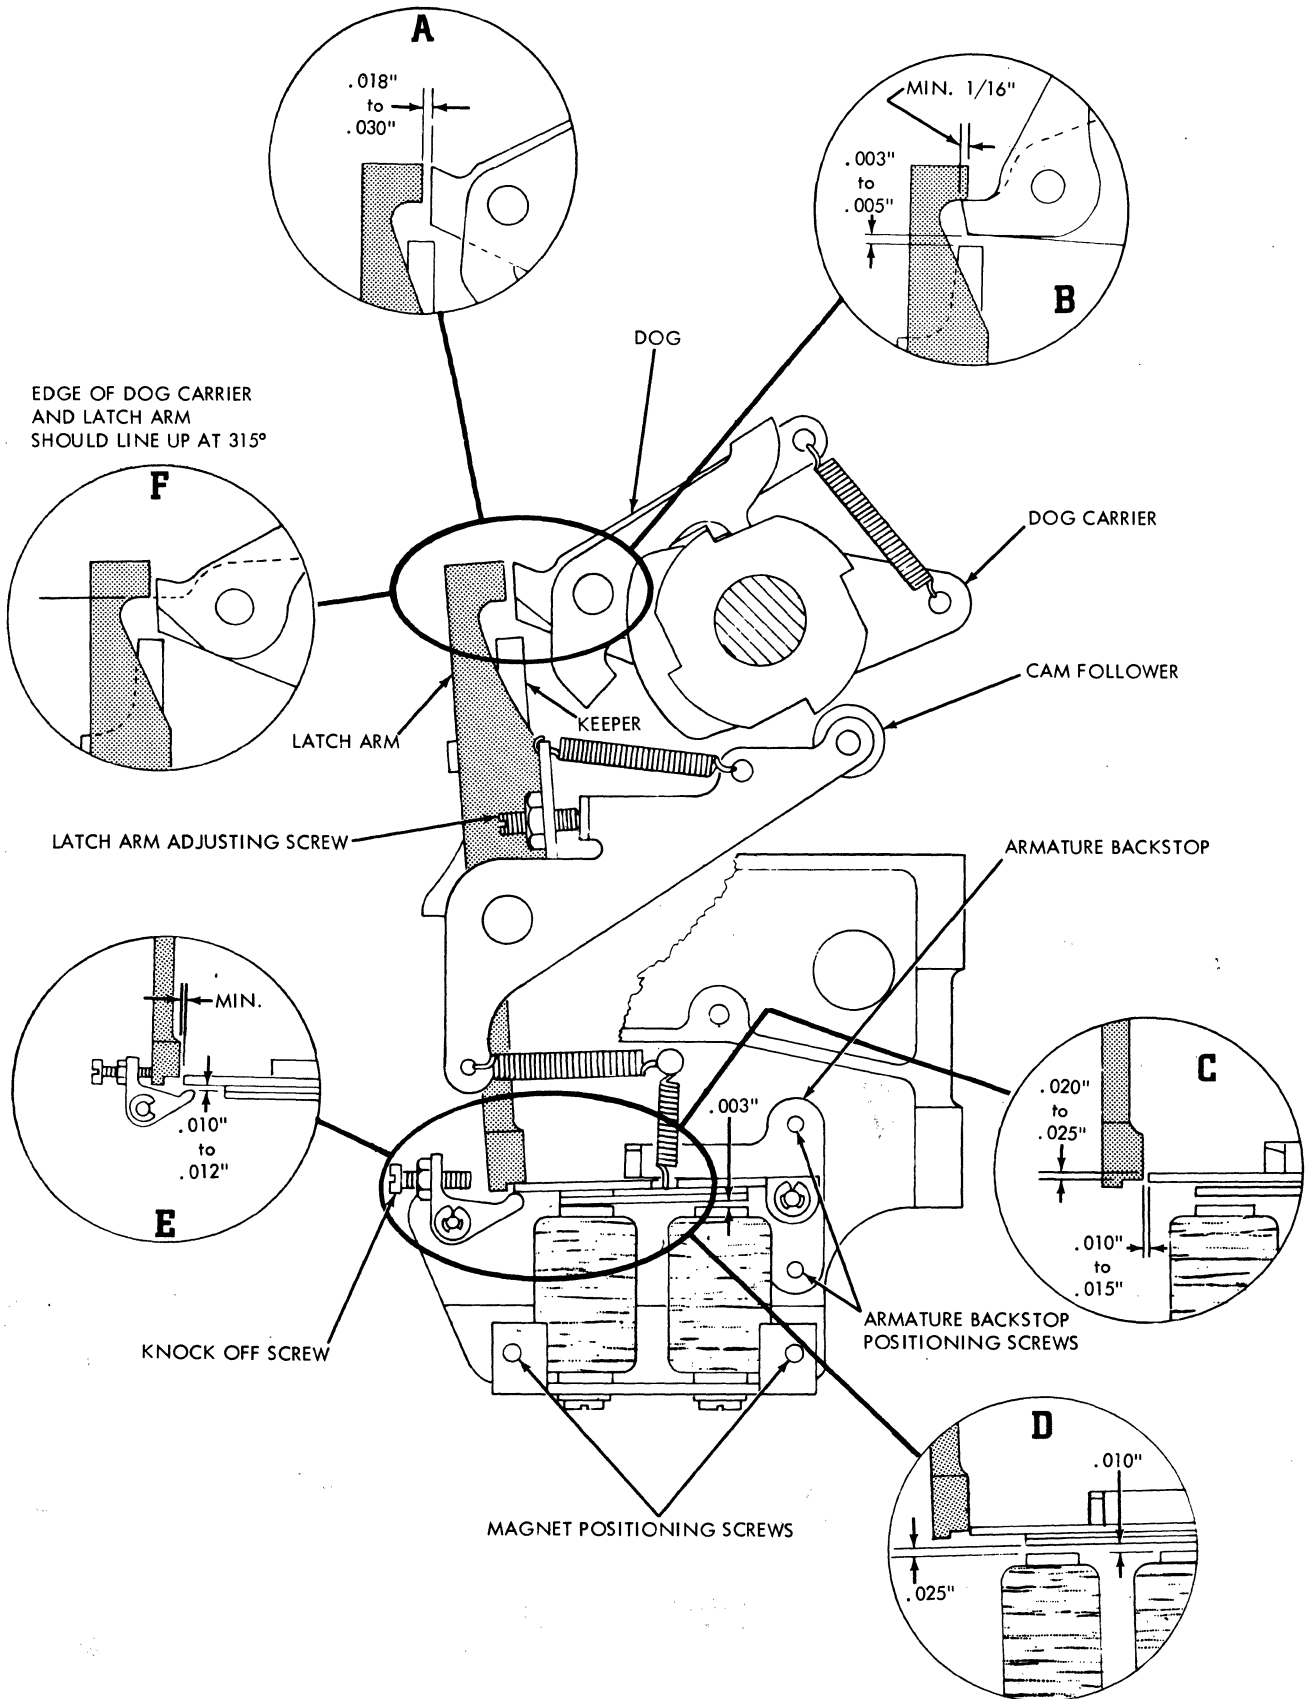

Figure 3-21. Punch Clutch Adjustments
2. Turn machine to low dwell on clutch cam. Trip clutch; set adjusting screw for .018" to .030" unlatching clearance (Figure 3-21 A).
3. Crank machine to high dwell on clutch cam. Check for a minimum of 1/16" overlap of clutch latch arm on dog and dog carrier (Figure 3-21 B).
- a. Reposition latch arm if necessary (check item 2).
4. Check for .003" to .005" clearance between dog carrier and keeper. Peen or stone the keeper to adjust it (Figure 3-21 B).
overlap of armature and latch; position horizontally for .015" to .015" relatching clearance (Figure 3-21 C).